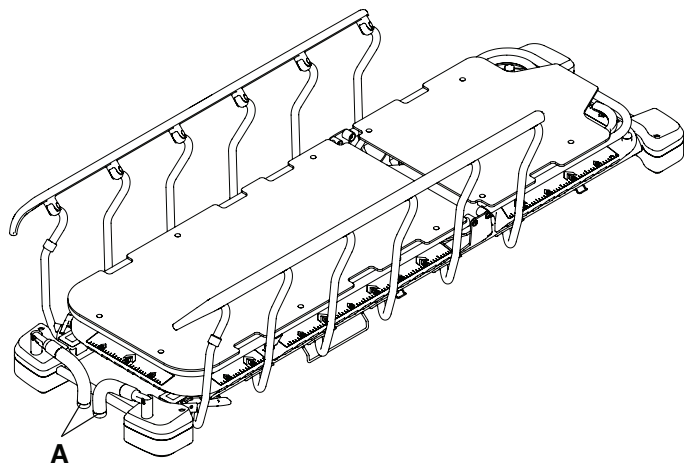

Figure 10 – Stowing the foot end push handles
4. Reverse steps to stow the foot end push handles (A) (Figure 10).